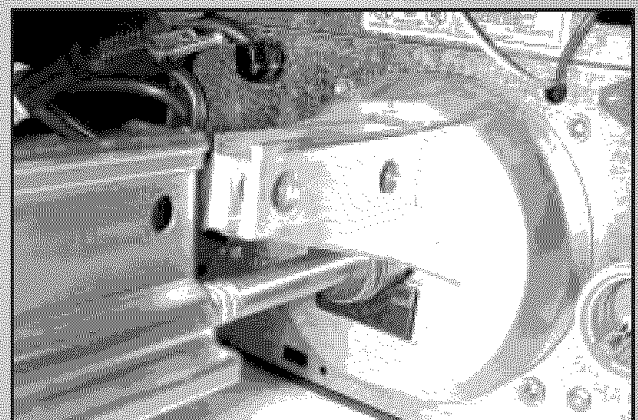

Fig. 1-4
4. Set power head on its bottom. Fig. 1-4.
- Place bearing end of screw against coupler. **Fig. 1-4.**